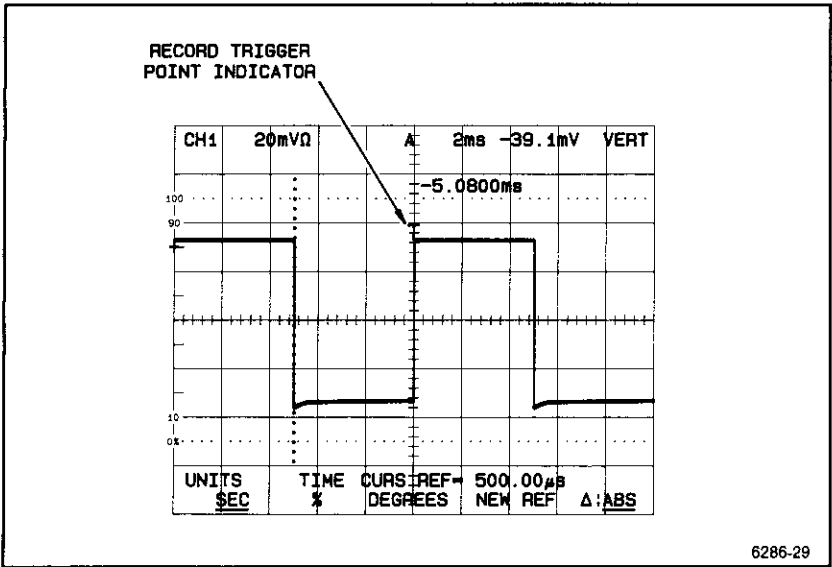

Figure 3-13. Time measurement of an event relative to when the record trigger occurred.
4. Read the time difference between the cursor-aligned point and the Record Trigger point directly from the cursor readout (see Figure 3-13).